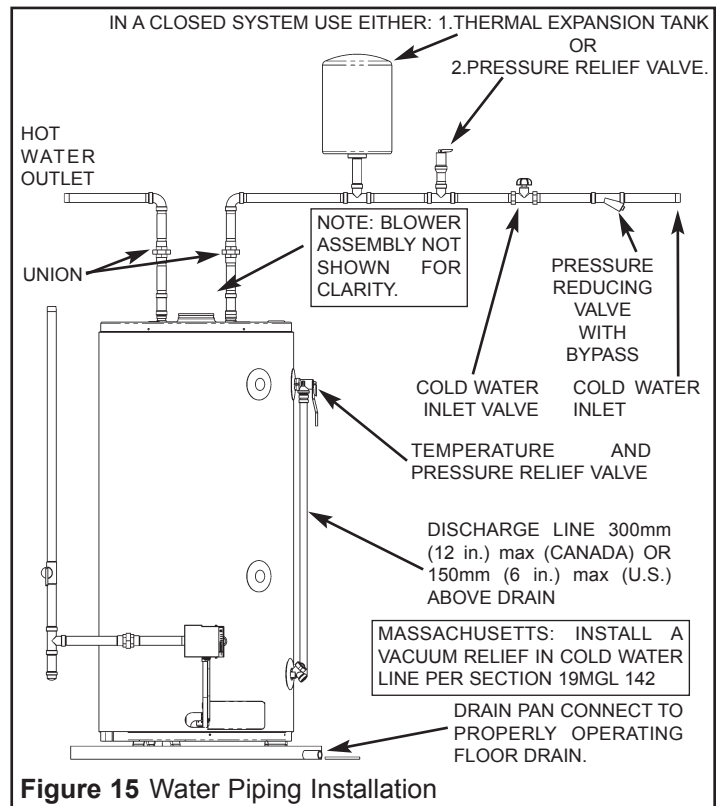

Figure 15 Water Piping Installation
Piping, fittings, and valves should be installed according to the installation drawing (Figure 15). A pressure-reducing valve and/or an expansion tank may be required for installations where the water pressure is high. The pressure-reducing valve should be located on the supply to the entire building in order to maintain equal hot and cold water pressure.
1. Install the water piping and fittings as shown in Figure 15. Connect the cold water supply to the fitting (3/4" NPT) marked "COLD" (or "C"). Connect the hot water supply to the fitting (3/4" NPT) marked "HOT" (or "H").